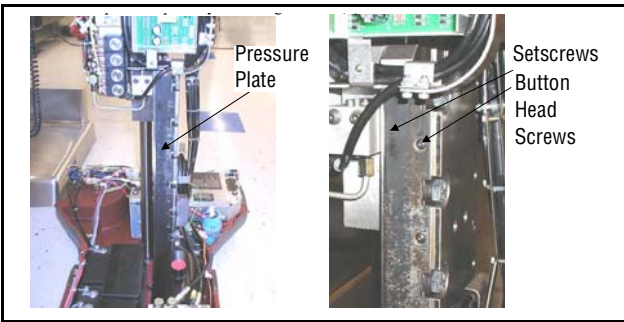

Figure 7-7. Remove Pressure Plate
4. Locate column pressure adjustment plate (see Figure 7-7) and proceed as follows: